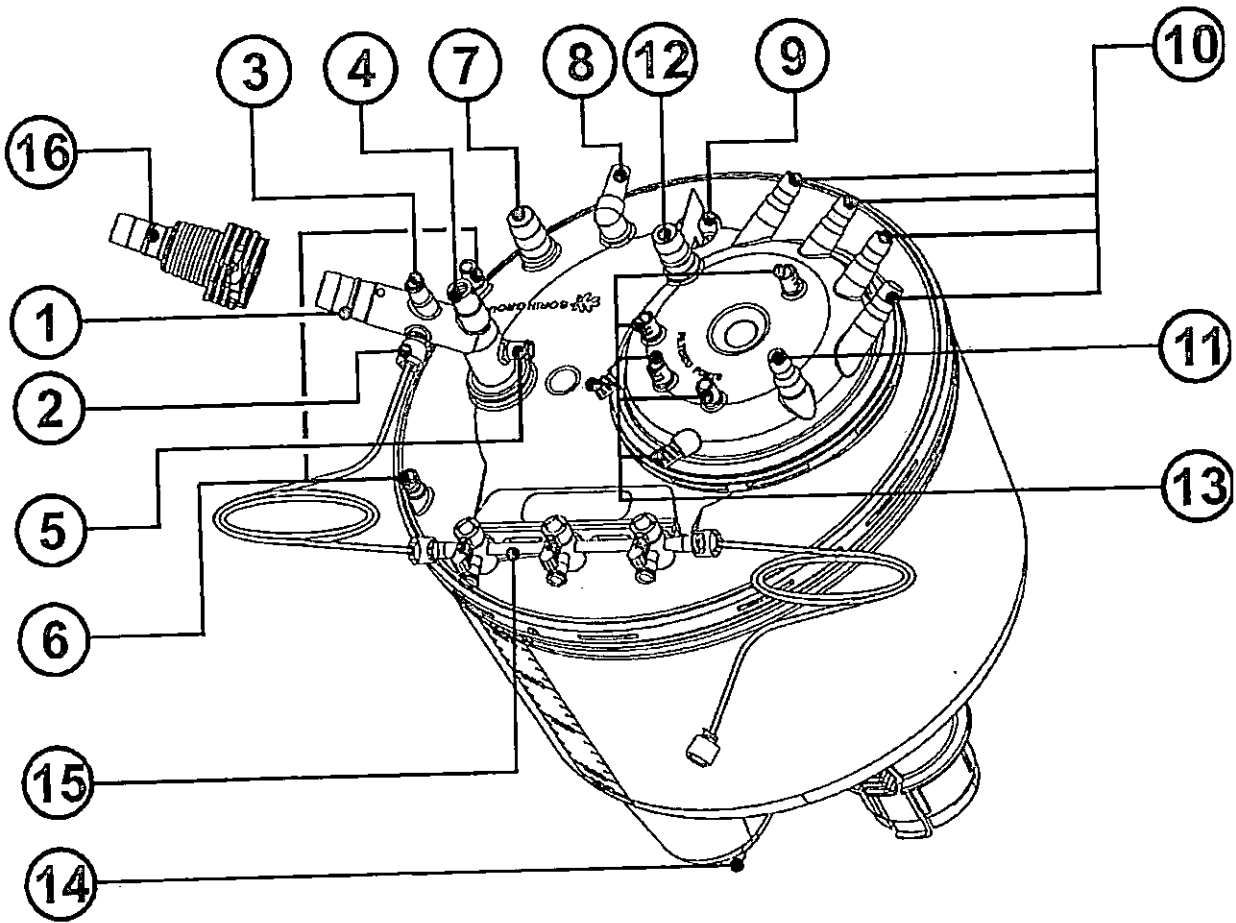

Fig. 1
- VENOUS LINE:** Connect the venous line to the 1/2" venous connector (Fig.1, Ref.1). In case a 3/8" venous line is required use the 1/2"-3/8" step down venous inlet locking adaptor (Fig.1, Ref.16).
- OUTLET LINE:** Connect the device outlet connector (Fig.1, Ref.14) to the main pump line and to the oxygenator module used in conjunction with it. Clamp the device outlet line close to the outlet connector.
- SUCTION LINES:** Connect suction lines to the suction inlet connectors (Fig.1, Ref. 10).
- ACCESSORY LINES:** Two types of connectors enable quick fluid administration: Luer lock and 1/4" connectors in the cardiotomy section. Accessory lines may be connected to the appropriate connectors. For precise directions refer to Fig. 1 of this manual.
- An additional cardiotomy reservoir may be connected in case of need to the auxiliary/emergency connector of Fig. 1 Ref. 7.
- OXYGENATOR MODULE PURGE/RECIRCULATION LINE:** Connect the purge/recirculation line of the connected oxygenator to one of the relevant connectors (Fig. 1, Ref. 13).
- CONNECT THE TEMPERATURE PROBE:** Connect the Sorin temperature probe to the venous temperature site (Fig.1, Ref. 4).